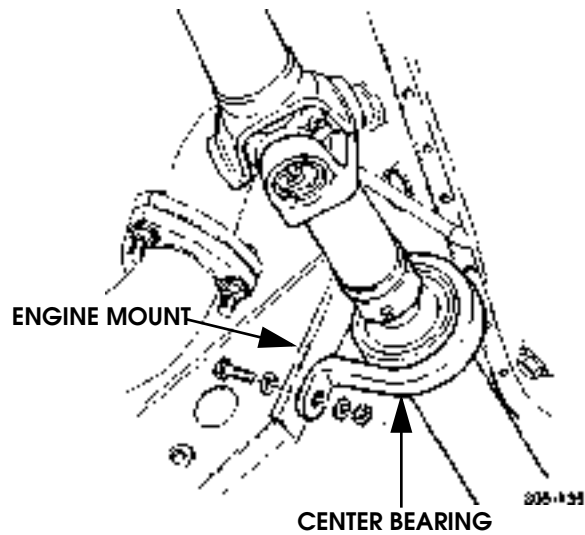

Figure 9-106: Center Bearing Attachment
4. Remove bolts attaching center bearing to engine mount (Figure 9-106).